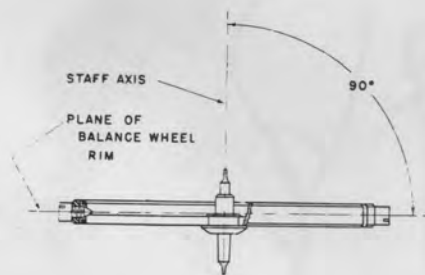

Fig. 10A
1. All parts of the rim must lie in the same plane. Fig. 10A.
2. The plane in which the rim lies must be perpendicular to the staff axis. Fig. 10A.
The operation known as truing in the Flat consists of bending the balance wheel rim until it conforms to the first two requirements of a true balance as illustrated in Fig. 10A, namely